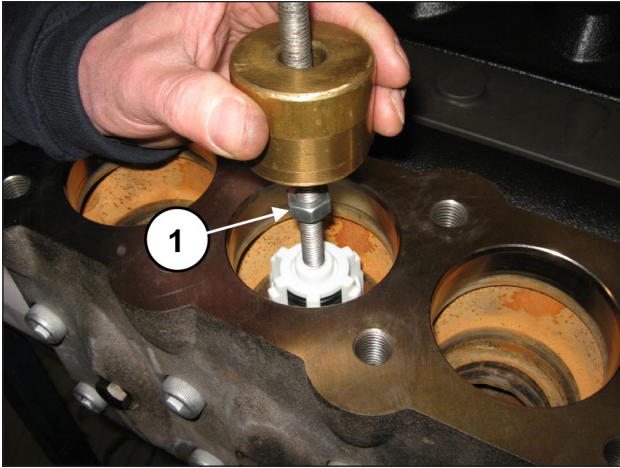

Fig. 104
Extract the outlet valve unit with the use of an extractor hammer (code 27516400) to be applied on the M10 hole of the valve guide (pos. ①, Fig. 104) or, in addition, an M10-M16 adapter (code 25089700) to be attached to the M16 thread of the valve guide.